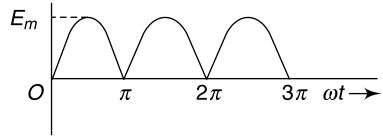

Fig. 5.6 Waveform of Ex. 5.7
5.7 Find the rms and average value of the waveform shown in Fig. 5.6